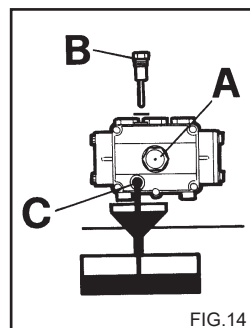

FIG. 14
1) Unscrew the drain cap situated under the pump (fig. 14 C).
2) Unscrew the cap with the dipstick (fig. 14).